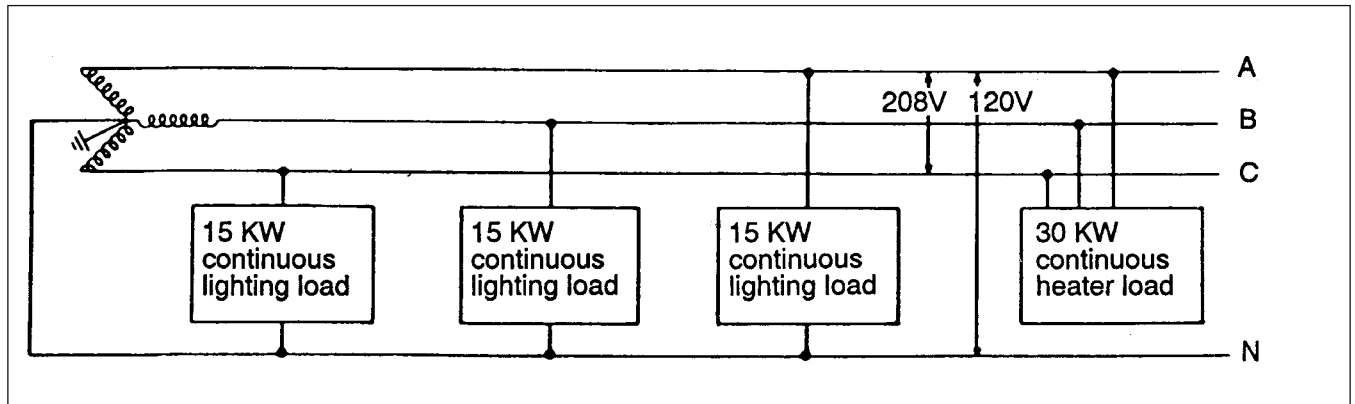

Figure 14-11: Wiring diagram of a three-phase wye-connected electric service
15. The minimum allowable ampacity that shall be used to size conductor A in Figure 14-11 is: